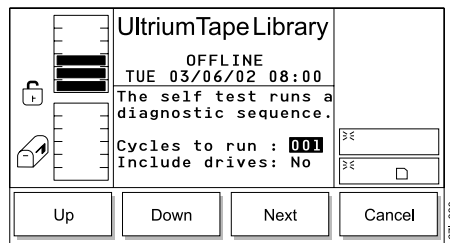

Figure 332. Self Test Dialog
5. Press the button below the **Self Test** softkey. The Self Test Dialog displays (see Figure 332).